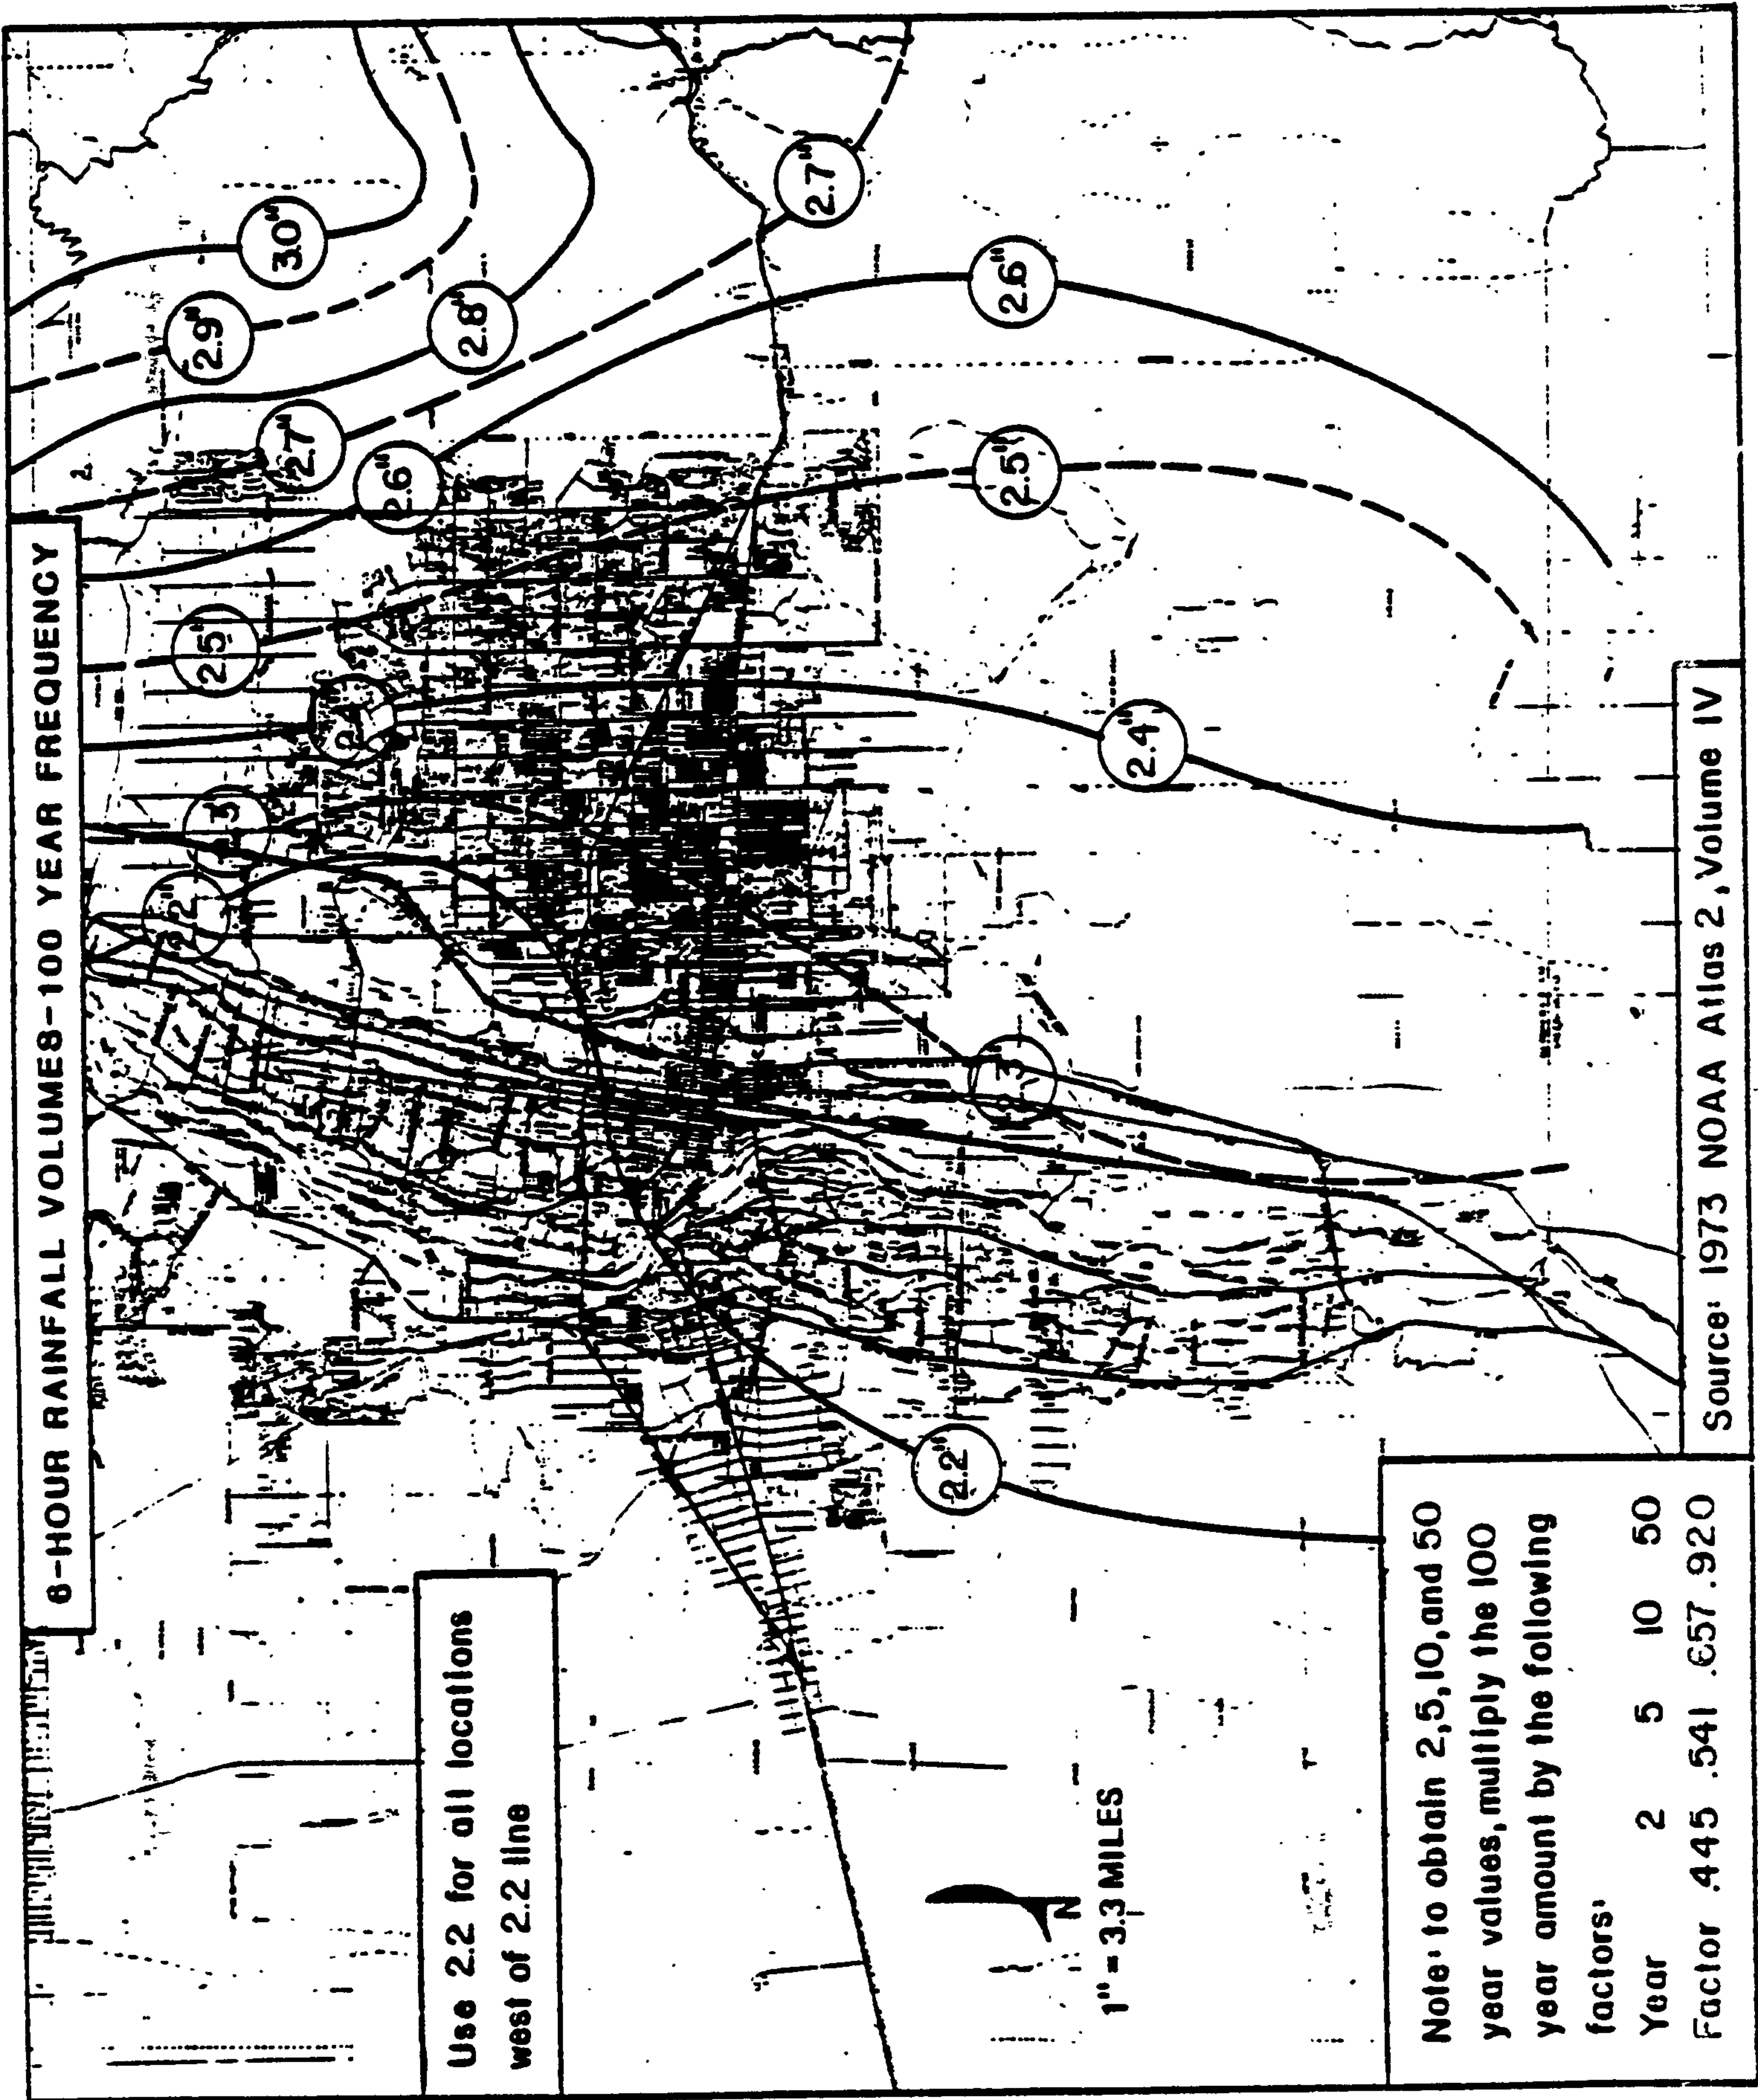

Figure 6
- Figure 6 – DPM Plate 22.2 D-1
Rainfall intensities were determined by applying plates 22.2 D-1 (Figure 5) and 22.2 D-2 (Figure 6) of the DPM. The 100-year intensity was determined to be 5.38 in/hr. The 10-year intensity is 3.06 in/hr.